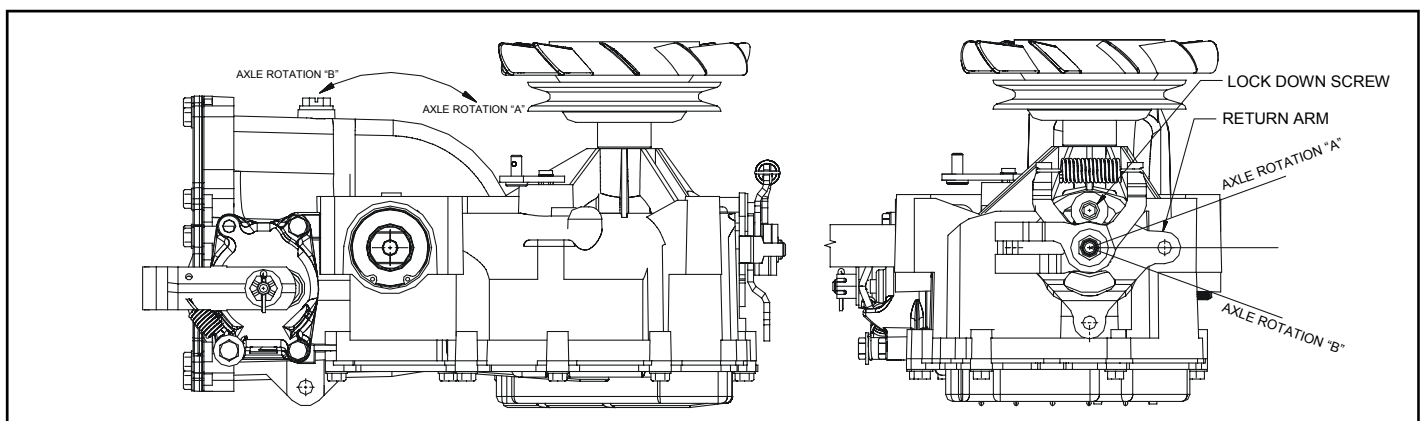

Figure 5. Return to Neutral Control
2. Remove the Original Equipment Manufacturer's (OEM's) control linkage at the return arm. Refer to Figure 5.
5. Stop the vehicle's engine. Reattach and adjust the OEM linkage to the return arm according to the OEM manual. Recheck according to Step 3 and 4. Stop the vehicle engine. Refer to Figure 5.
6. Note the axle directional movement. Stop the vehicle engine. Loosen the lock down screw until the return arm can be rotated. Refer to Figure 5 below to make adjustment. In general, rotate the return arm in the direction opposite of axle rotation. If the axle is rotating in the "B" direction, rotate the return arm in the "A" direction, and vice-versa. Continue until axle rotation stops. Tighten the lock down screw. Refer to Table 5 Required Torque Values, Page 17. Recheck according to steps 3 and 4. Stop the vehicle engine. Reattach and adjust the OEM linkage according to the OEM manual. Recheck according to steps 3 and 4. Refer to Figure 5.